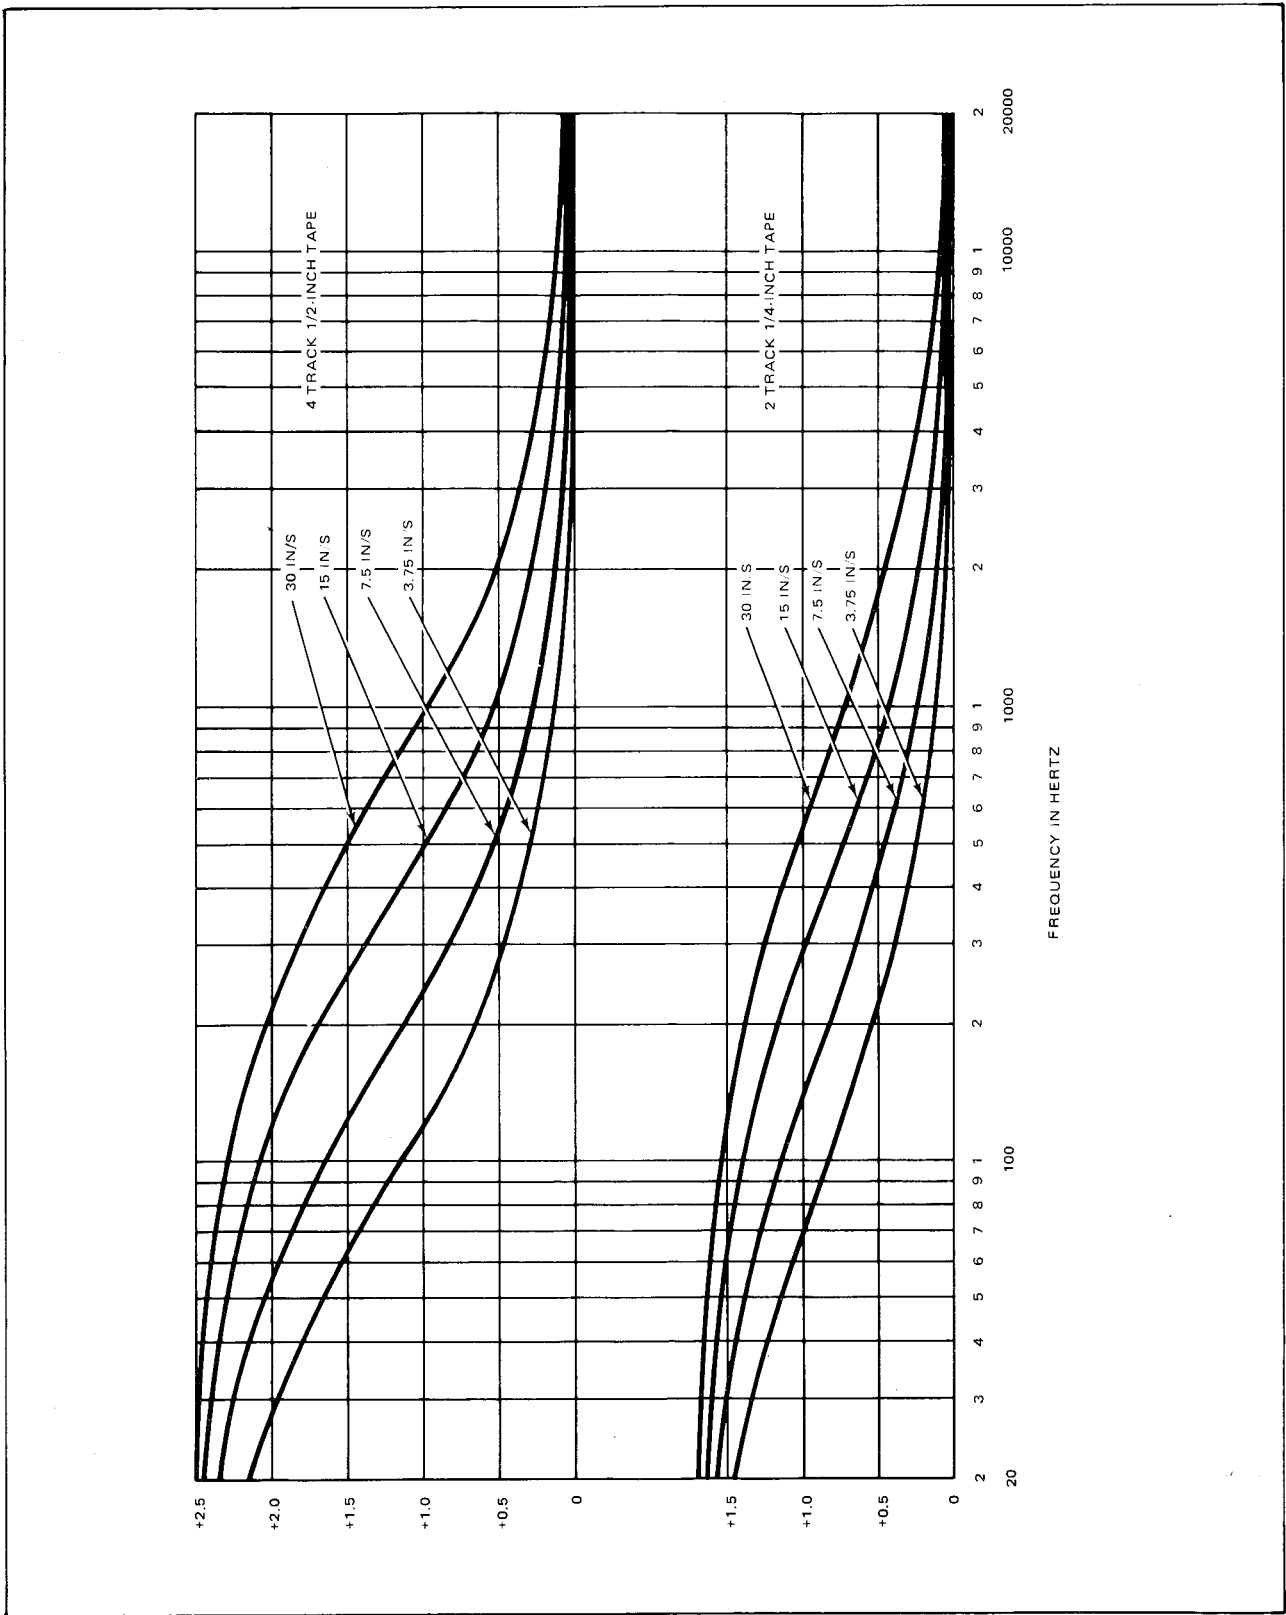

Figure 5-8. Relative Fringing Frequency Response Due to Fringing Effect
Therefore, if the equalization is correctly adjusted, the reproduce response when using a full-track alignment tape on either a 2-track, 1/4-inch tape system or a 4-track, 1/2-inch tape system should conform to the relative curves shown in Figure 5-8 within the tolerances given in Table 5-3. The curves given in Figure 5-8 display the *relative* fringing frequency response and *do not* include the fixed error due to the wider reproduce core width (as compared to the record head width).
NOTE: To the above tolerances, add manufacturing tolerances of the alignment tape and relative fringing frequency response due to fringing effect (Figure 5-8).
\*The amplitude correction factors shown in the table are the sum of the values shown in Figure 5-8 for the frequencies shown in the table, and the fixed errors due to wider reproduce core width as follows:
The correction factors in Table 5-4 are the amounts by which the actual measured reproduce output from a full width alignment tape will exceed the reproduce output of the correct track width recorded to the same fluxivity. The table includes the fixed error due to the wider reproduce core width and the relative fringing error (shown in Figure 5-8) for frequencies of 500 Hz, 700 Hz, and 1.0 kHz. For example, when reproducing the 700-Hz, 185-nWb/m tone on an Ampex 15 in/s full-width alignment tape on a 2-track, 1/4-inch tape system, the output (as read on an ac voltmeter) will be +1.14 dB higher (Table 5-4) as compared to reproducing an alignment tape that has the same track format as the recorder/reproducer.
0.58 dB	— relative fringing frequency response due to fringing error effect at 700 Hz and 15 in/s (Figure 5-8).